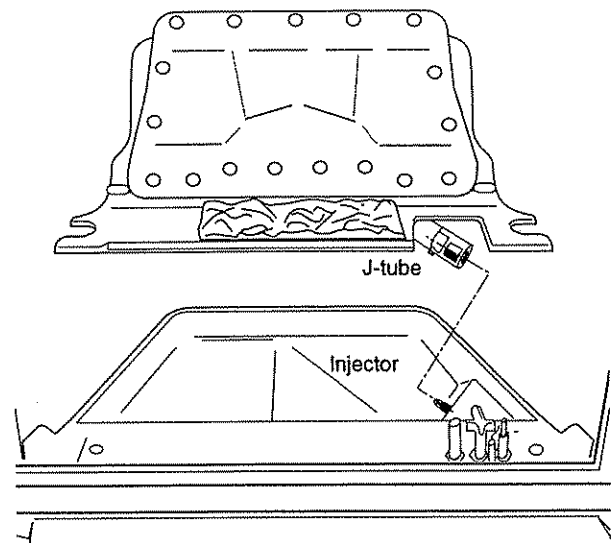

Figure 43. Align the J-tube with the injector.
**Step 4.** Set the burner back into the firebox taking care to ensure that the end of the J-tube fully engages and aligns with the injector, Fig. 43.